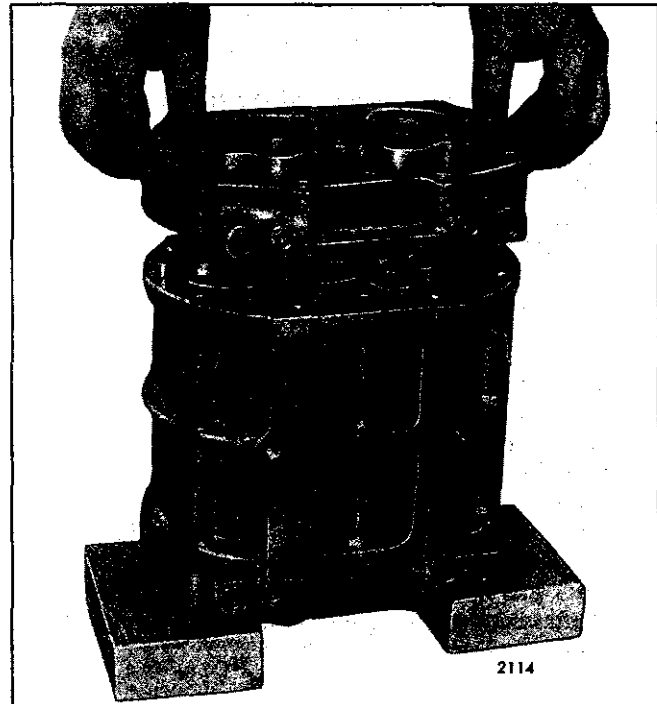

Fig. 15 – Installing Rear End Plate
7. Place the rear end plate over the rotor shafts (Fig. 15). On the former blowers, be sure that the ring type oil seals are properly positioned on the rotors. Then, secure each end plate to the 3-53 blower housing with two end plate retaining screws and two cover bolts and plain washers. Secure each end plate to the 4-53 or 6V blower with four end plate cover bolts and plain washers.